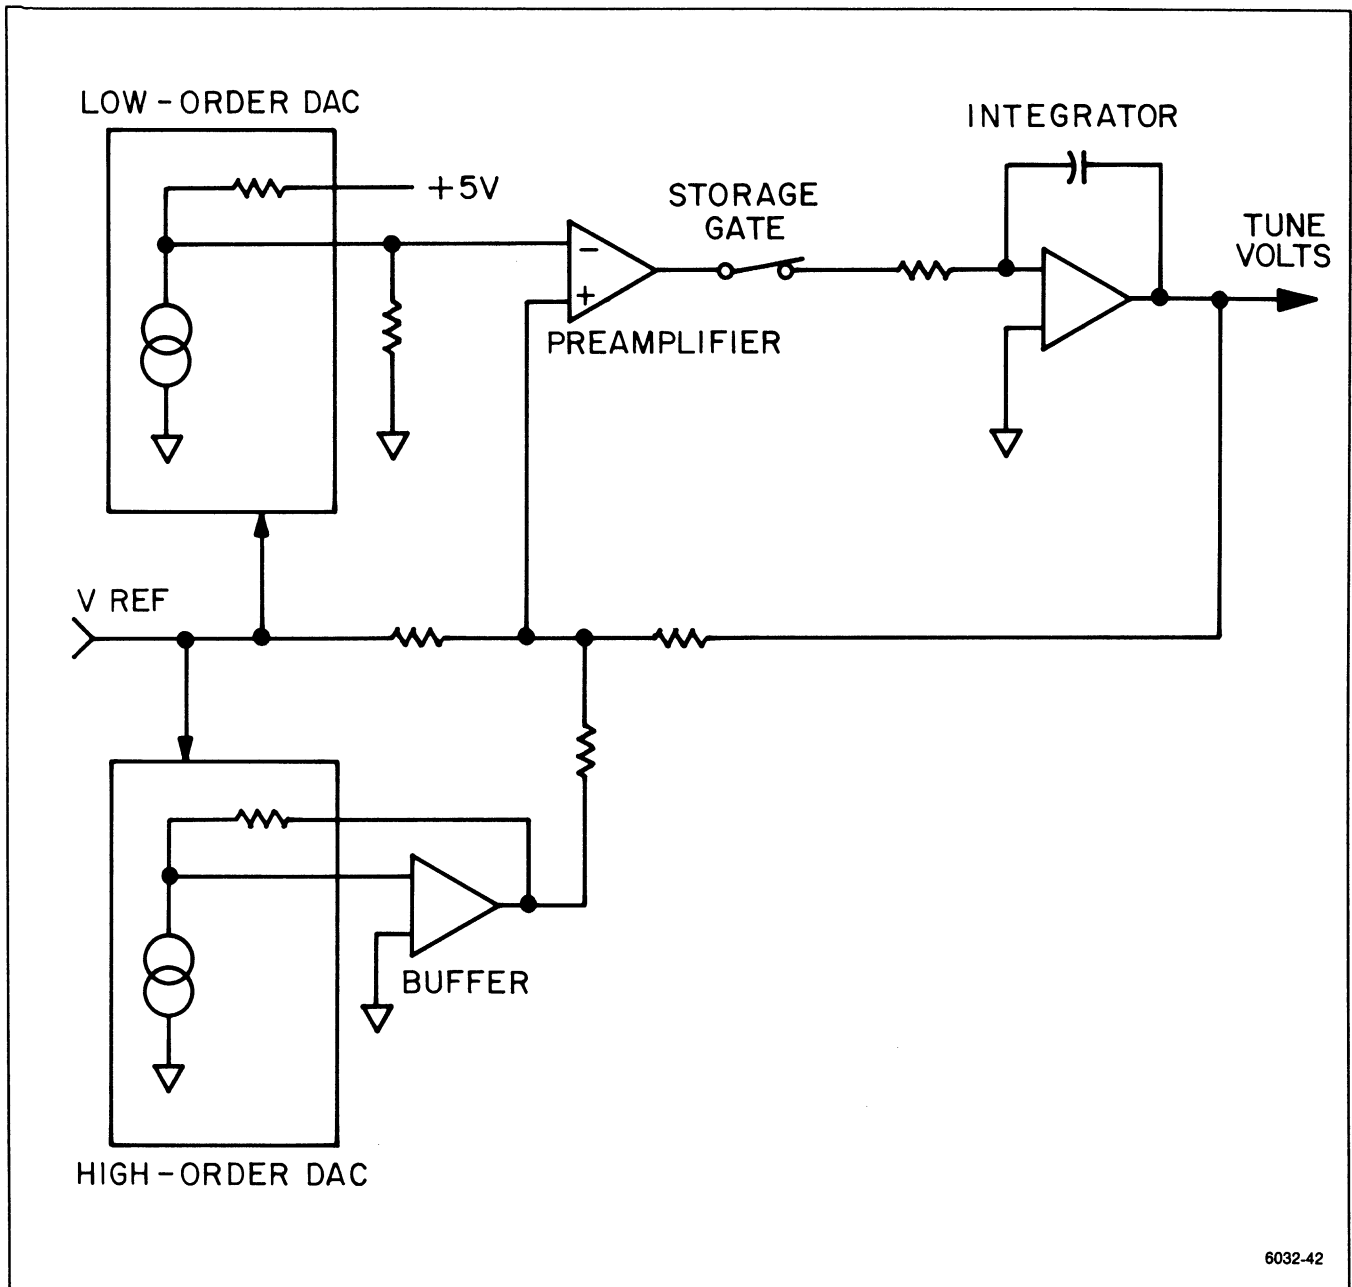

Figure 7-26. Simplified tune voltage converter.
The first operating mode is the tracking mode, where the preamplifier and integrator are connected together by the disconnect stage, and the entire unit acts as an operational amplifier. Figure 7-26 illustrates
**Digital-To-Analog Converters.** Since both the coarse and fine tune circuits operate similarly, only the coarse tune section of the board will be discussed here. Figure 7-26 is a functional block diagram of the circuit.
U2070 tracks the output of U1065 when the circuit is in the track mode and serves as the inverting amplifier in the feedback system shown in Figure 7-26. Normally the incoming signal is routed through R2067. To improve the slewing rate of the integrator, CR1067 and CR1069 conduct and connect R1068 across R2067 when input signals over 1 V are present.